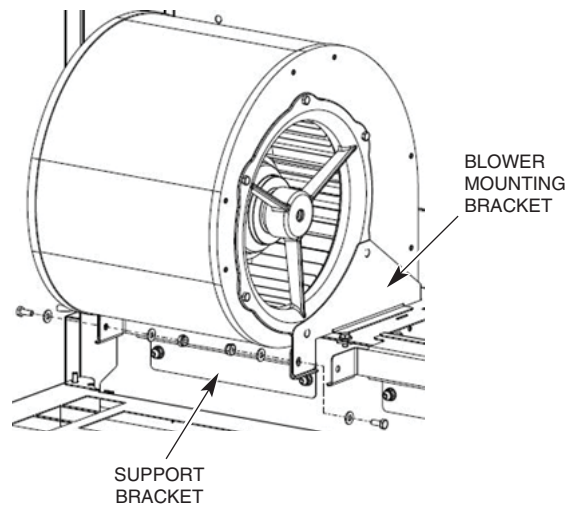

Fig. 24
3. Lower the back side of the blower assembly down so that the holes in the blower mounting brackets line up with the holes in the support brackets on the heater housing (Fig. 24).
4. Install ¼-20 hex head cap screws with washers and stop nuts as shown in Fig. 24 and tighten.